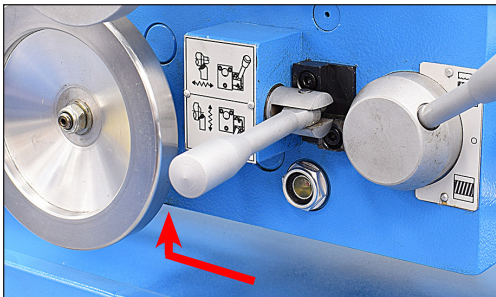

Figure 4-4 Apron sight glass & drain plug (underneath apron)
2. Locate the drain plug on the underside of the apron casting, Figure 4-4.